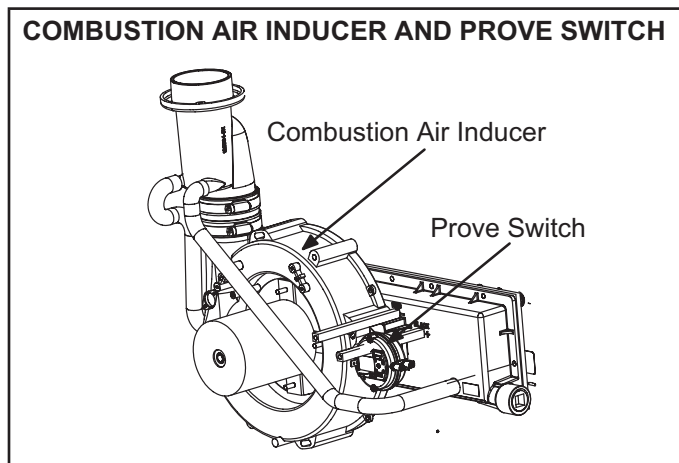
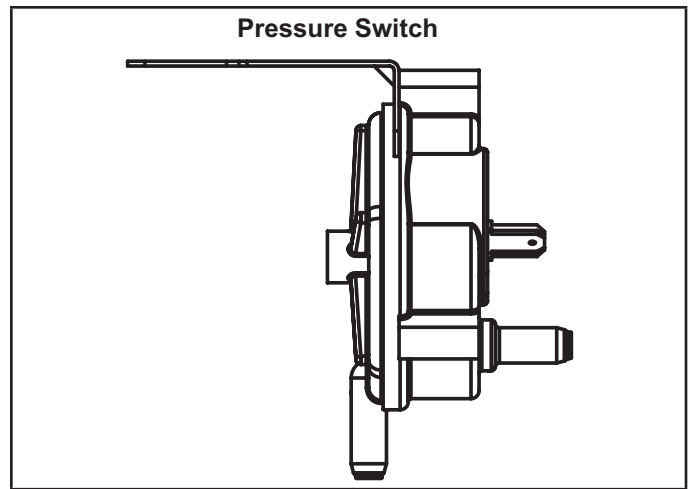

FIGURE 8
FIGURE 9
7. Combustion Air Inducer (B6) & Cold End Header Box FIGURE 8
8. Combustion Air Prove Switch FIGURE 8 and FIGURE 9